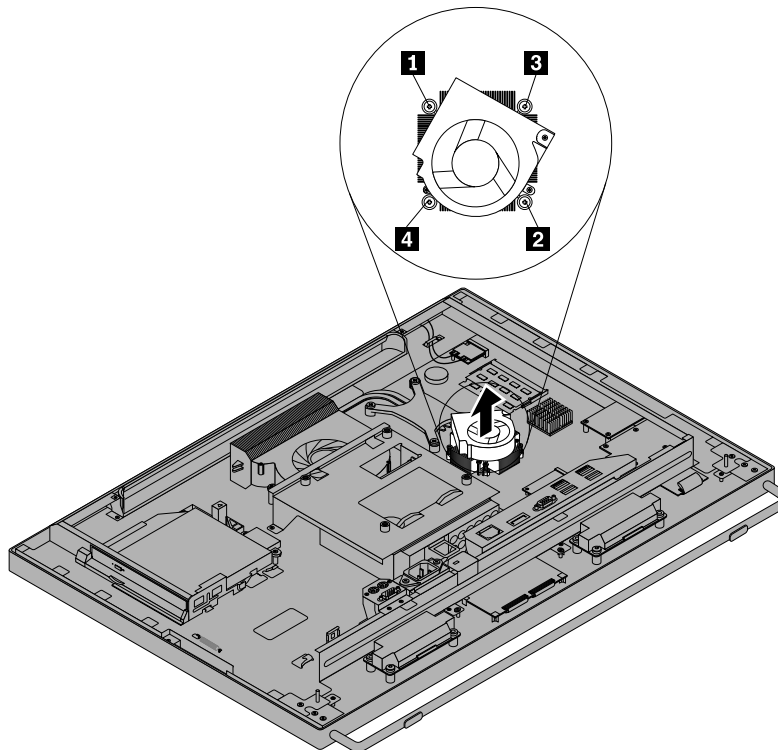

Figure 43. Removing the heat sink and fan assembly for GPU
9. Follow this sequence to install the four screws to secure the heat sink and fan assembly for GPU, as shown in Figure 43 “Removing the heat sink and fan assembly for GPU” on page 112.